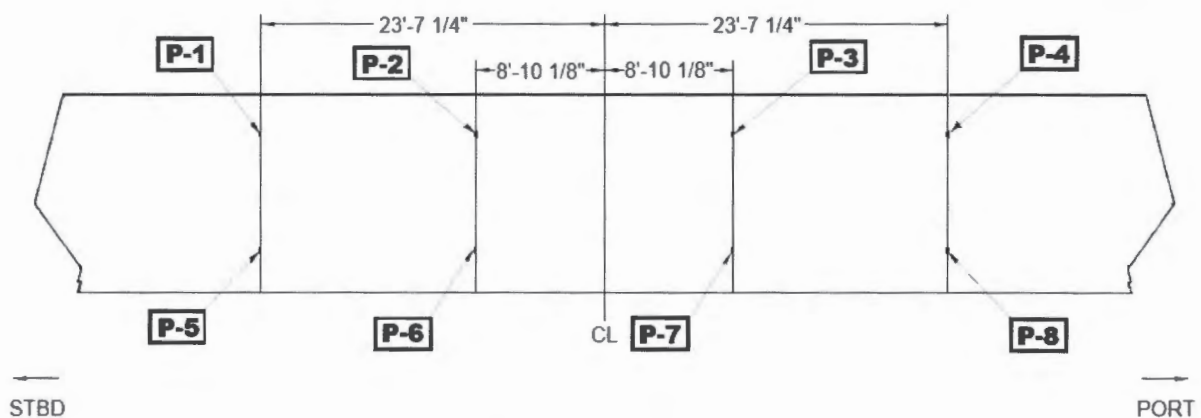

Figure 1-1: Location & Padeye ID (Upper Stern Gate)
- 1-1 The purpose of this test is to certify the temporary lifting padeyes (8 EA) installed on the upper stern gate. See Table 1-1 and Figure 1-1 for the location and the identification numbers of the padeyes.